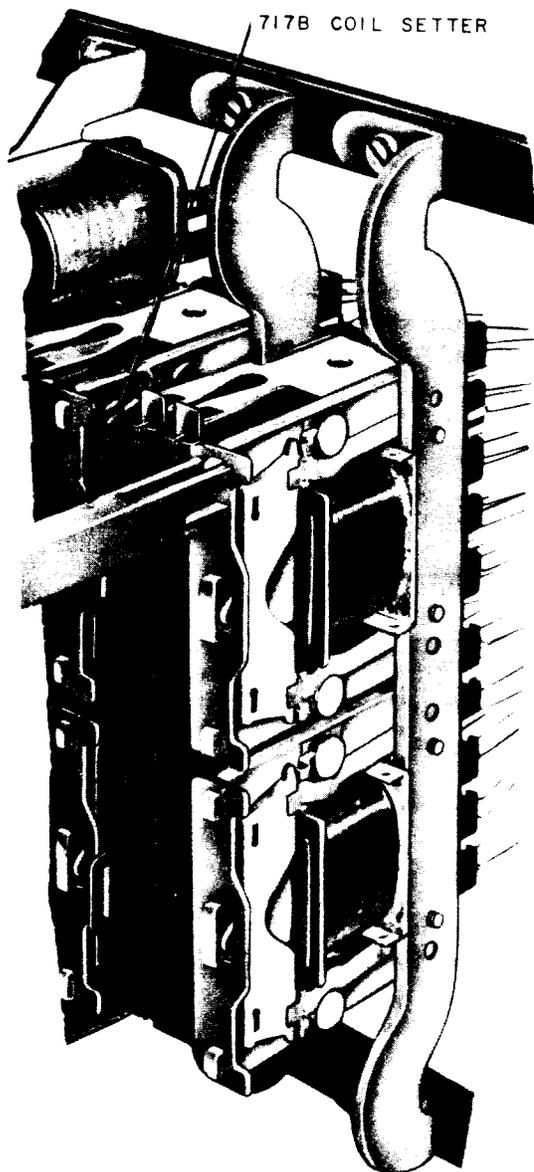

Fig. 18—Positioning Core Plate on Core Leg
(1) Position the core plate in front of the core legs so the surface of the plate on which the holes are chamfered (edges not sharp) is outermost and manually start the core plate on the core legs. Then using the 717B coil setter and the 4-ounce riveting hammer, gently tap the core plate into position on the core legs. When tapping the core plate at the center core leg, take care to avoid tapping the armature. Fig. 18 shows the coil setter being used to position the core plate on the upper core leg.